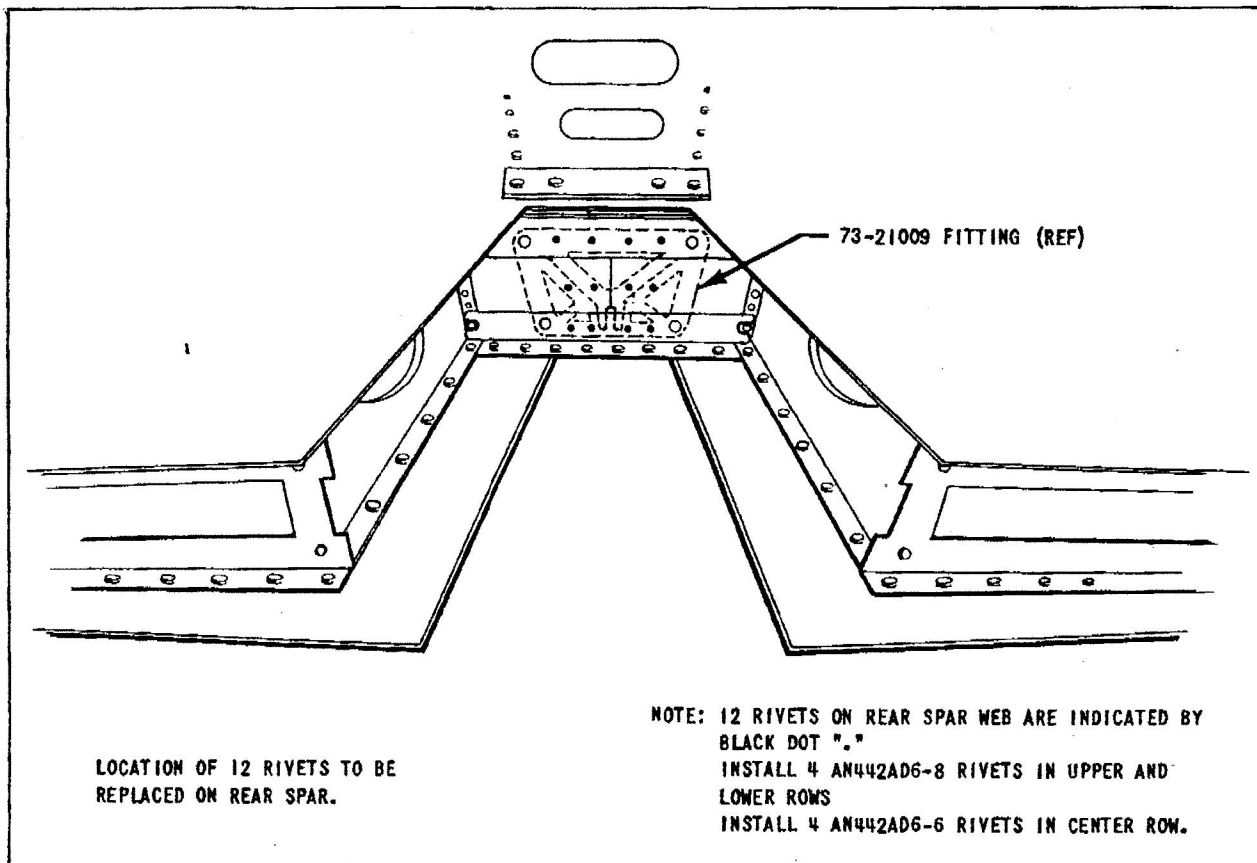

Figure 3 - Aft View of Horizontal Stabilizer
a. Drill out the 12 center rivets located on the web of the horizontal stabilizer rear spar (3 rows - 4 rivets per row) as shown in figure 3 using a No. 12 (.189-inch) drill.